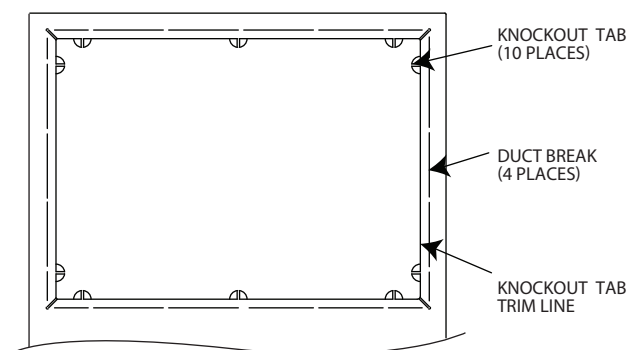
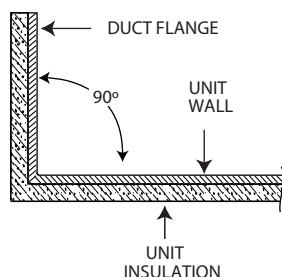

**Fig. 33 — 42SM Unit Supply Air Knockout Tab
Fig. 34 — 42SM Unit Supply Air Installation
3. Use a sharp retractable knife to trim insulation using center knockout slot/trim line as pattern (see Fig. 33).
4. Use a sharp standard needle nose pliers and grab knockout tab (see Fig. 33).
9. Use duct pliers (hand seamers) to fold duct flange out of the unit 90 degrees for each side of the supply air opening along duct break (see Fig. 33). The 90-degree flanges can now be used as drywall stops to prevent coverage of discharge opening (see Fig. 34).